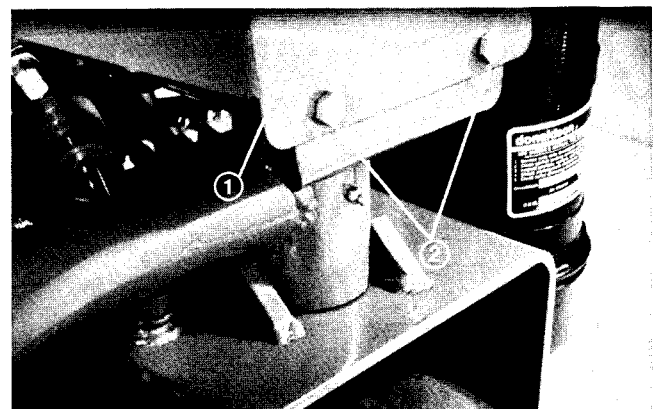

Figure 55
7. Remove the two capscrews securing the rear of the tank base to the frame (Fig. 55). Lift the tank base and tank off of the machine.